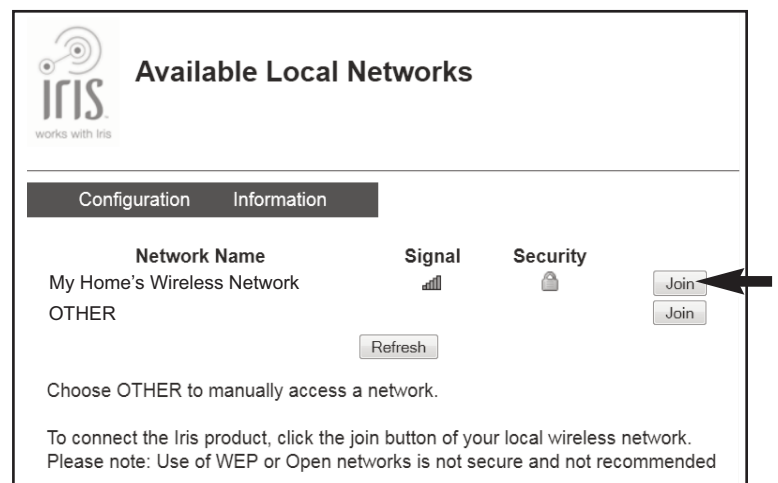

FIG. 23
5. After a screen like the one shown in Figure 23 appears, follow these steps to connect the softener to your in-home wireless network:
- b. Click the "Join" button next to your home's wireless network (See Fig. 23).